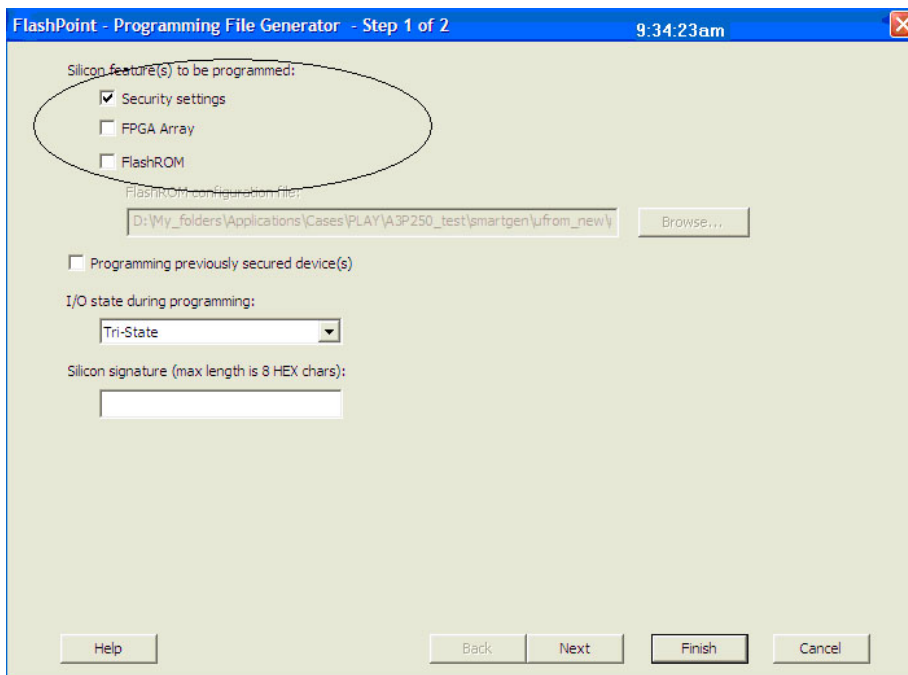
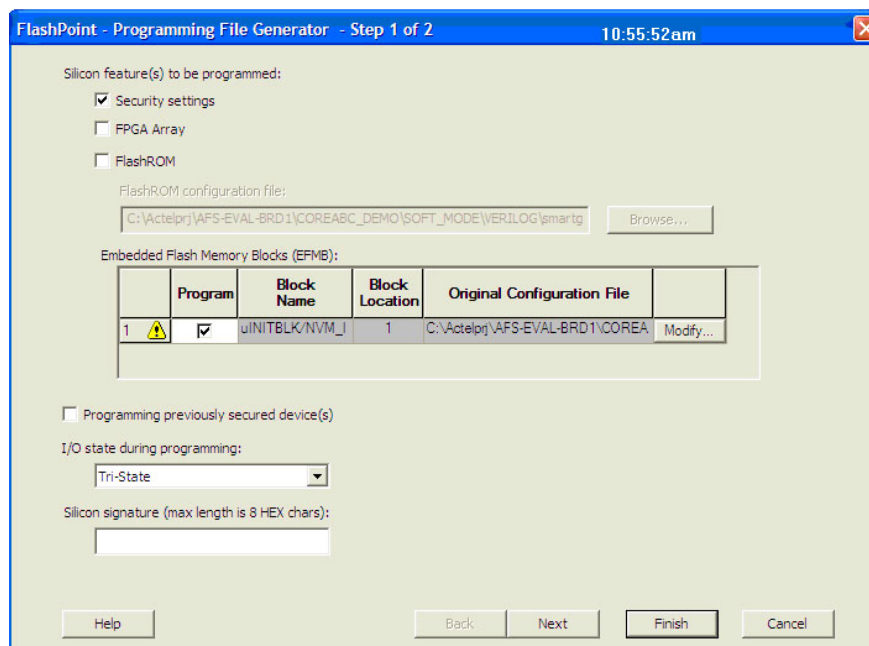

Figure 11-14 • Programming IGLOO and ProASIC3 Security Settings Only
Figure 11-15 • Programming Fusion Security Settings Only
1. Select only the **Security settings** option, as indicated in Figure 11-14 and Figure 11-15 on page 252. Click **Next**.